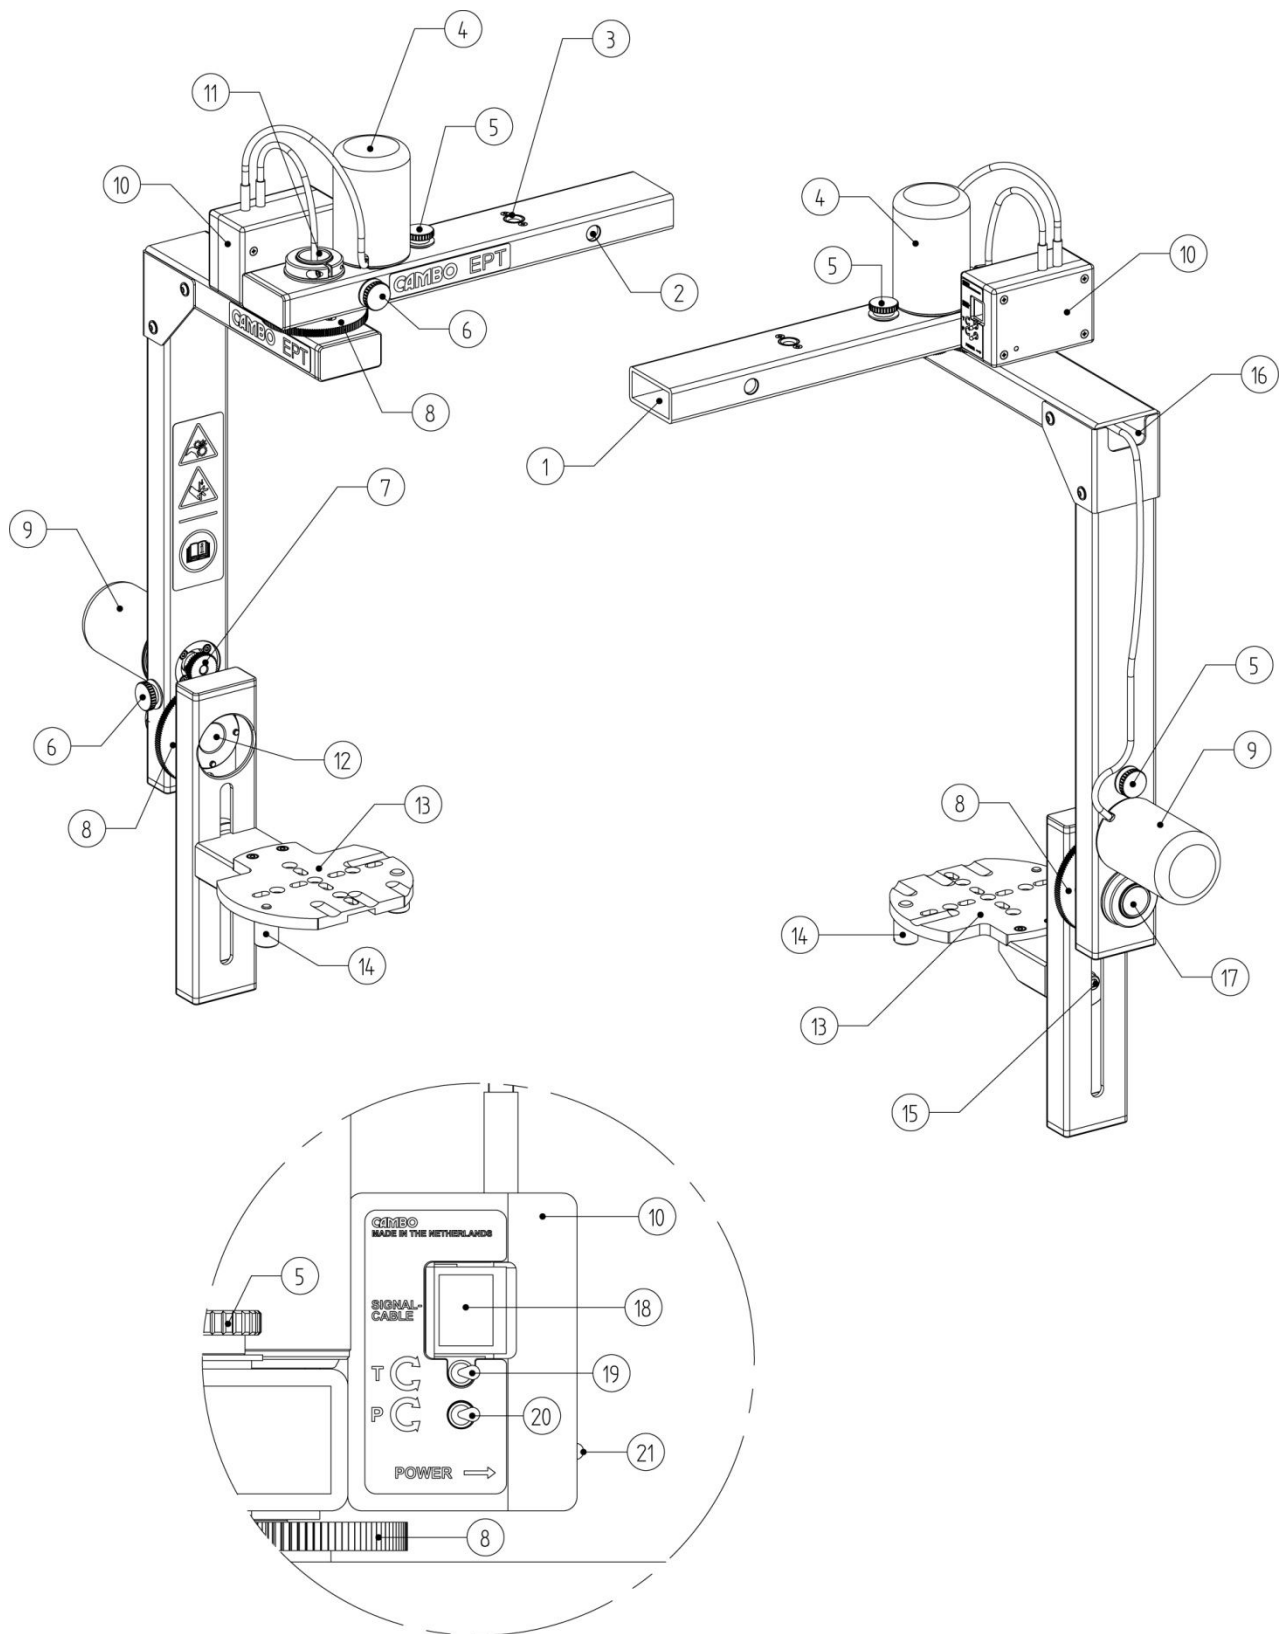
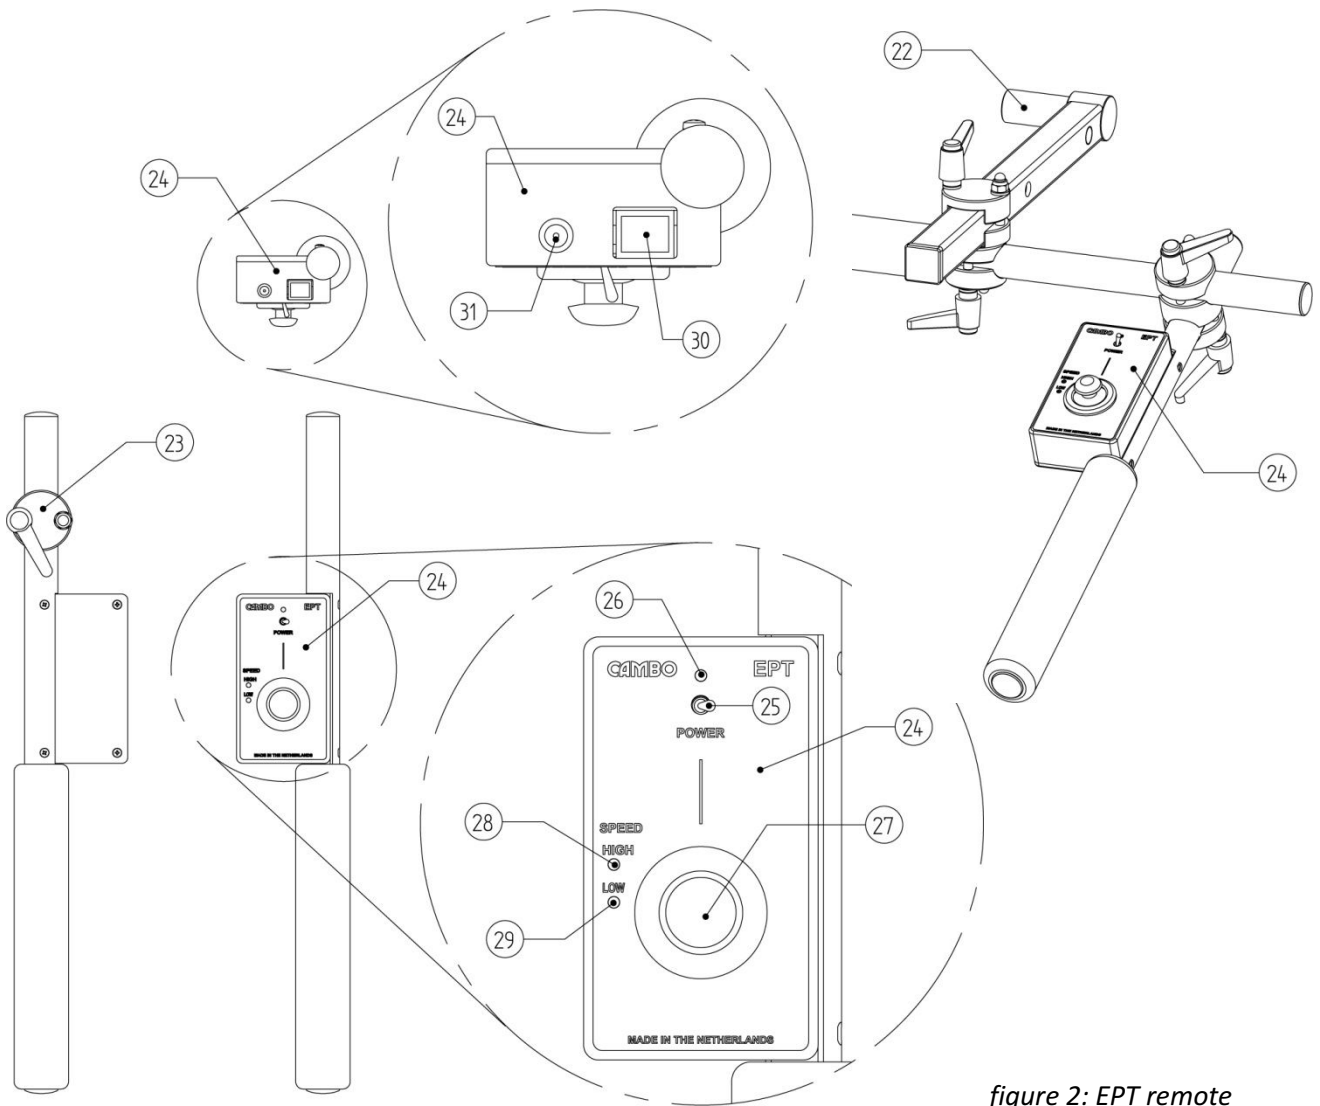

figure 1: EPT head
figure 2: EPT remote
**WARNING: don't connect or disconnect the power and/or signal cable** to the remote control and/or motor control unit unless the power is switched off (switch 26 figure 2).
**CAUTION: don't over-tighten knobs (5) and (6)** shown in figure 1.
The camera is balanced correctly when the **centre of mass** of the camera, lens, adapter and camera plate (13 fig.1) is in the axis of the tilt movement.
1. decouple the gears by loosening the two knobs (5) and (6)
2. slide the motor unit (9) upwards
3. when the gears are decoupled please lock either knob (5) or (6)
5. to align the centre of mass in the vertical direction please unlock hex bolt (15 fig.1), using a metric hex key 5mm
6. when the camera is balanced correctly please slide back the motor unit to couple the gears, **then slightly tighten knob (5) and (6)**
**IT IS IMPORTANT NOT TO OVERTIGHTEN THE KNOB (5) AND (6)** THIS WILL INCREASE THE VIBRATION LEVEL OF THE MOTOR UNIT.
**Warning:** only connected the power/ signal cable to the *remote control (24)* or *motor control unit (10)* when the power is switched off (switch 25).
The remote control unit (24) is connected to the EPT head using a standard UPT cable (up to 10m). The cable is attached to the remote unit at connector (30 – fig 2.) and at the motor control box at connector (18 – fig 1.).